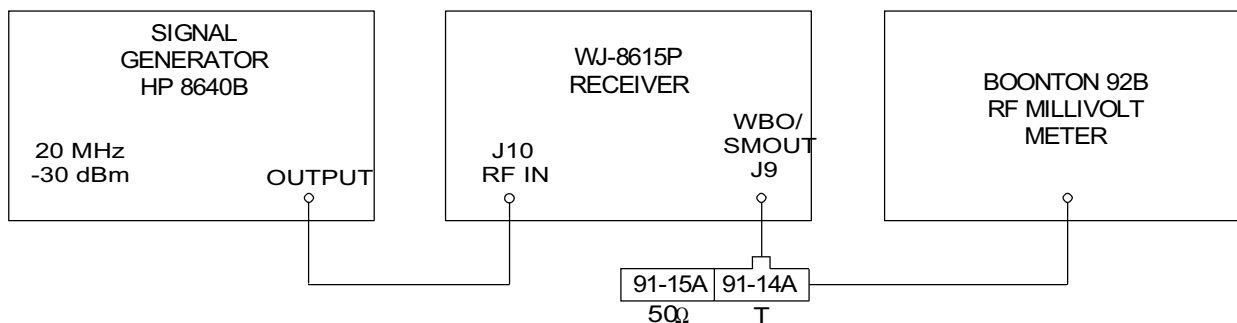

Figure 4-1. Preamplifier/Converter Performance Test, Equipment Connections
1. Connect the test equipment as illustrated in **Figure 4-1**.